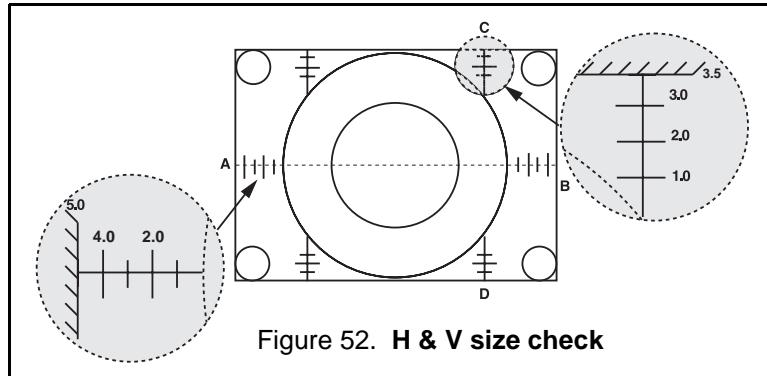

Figure 52. H & V size check
2. Confirm that horizontal size is  $5 \pm 0.2$  lines at "A" and "B" and that vertical size is  $3.5 \pm 0.1$  lines at "C" and "D" as indicated in Figure 52 with digital